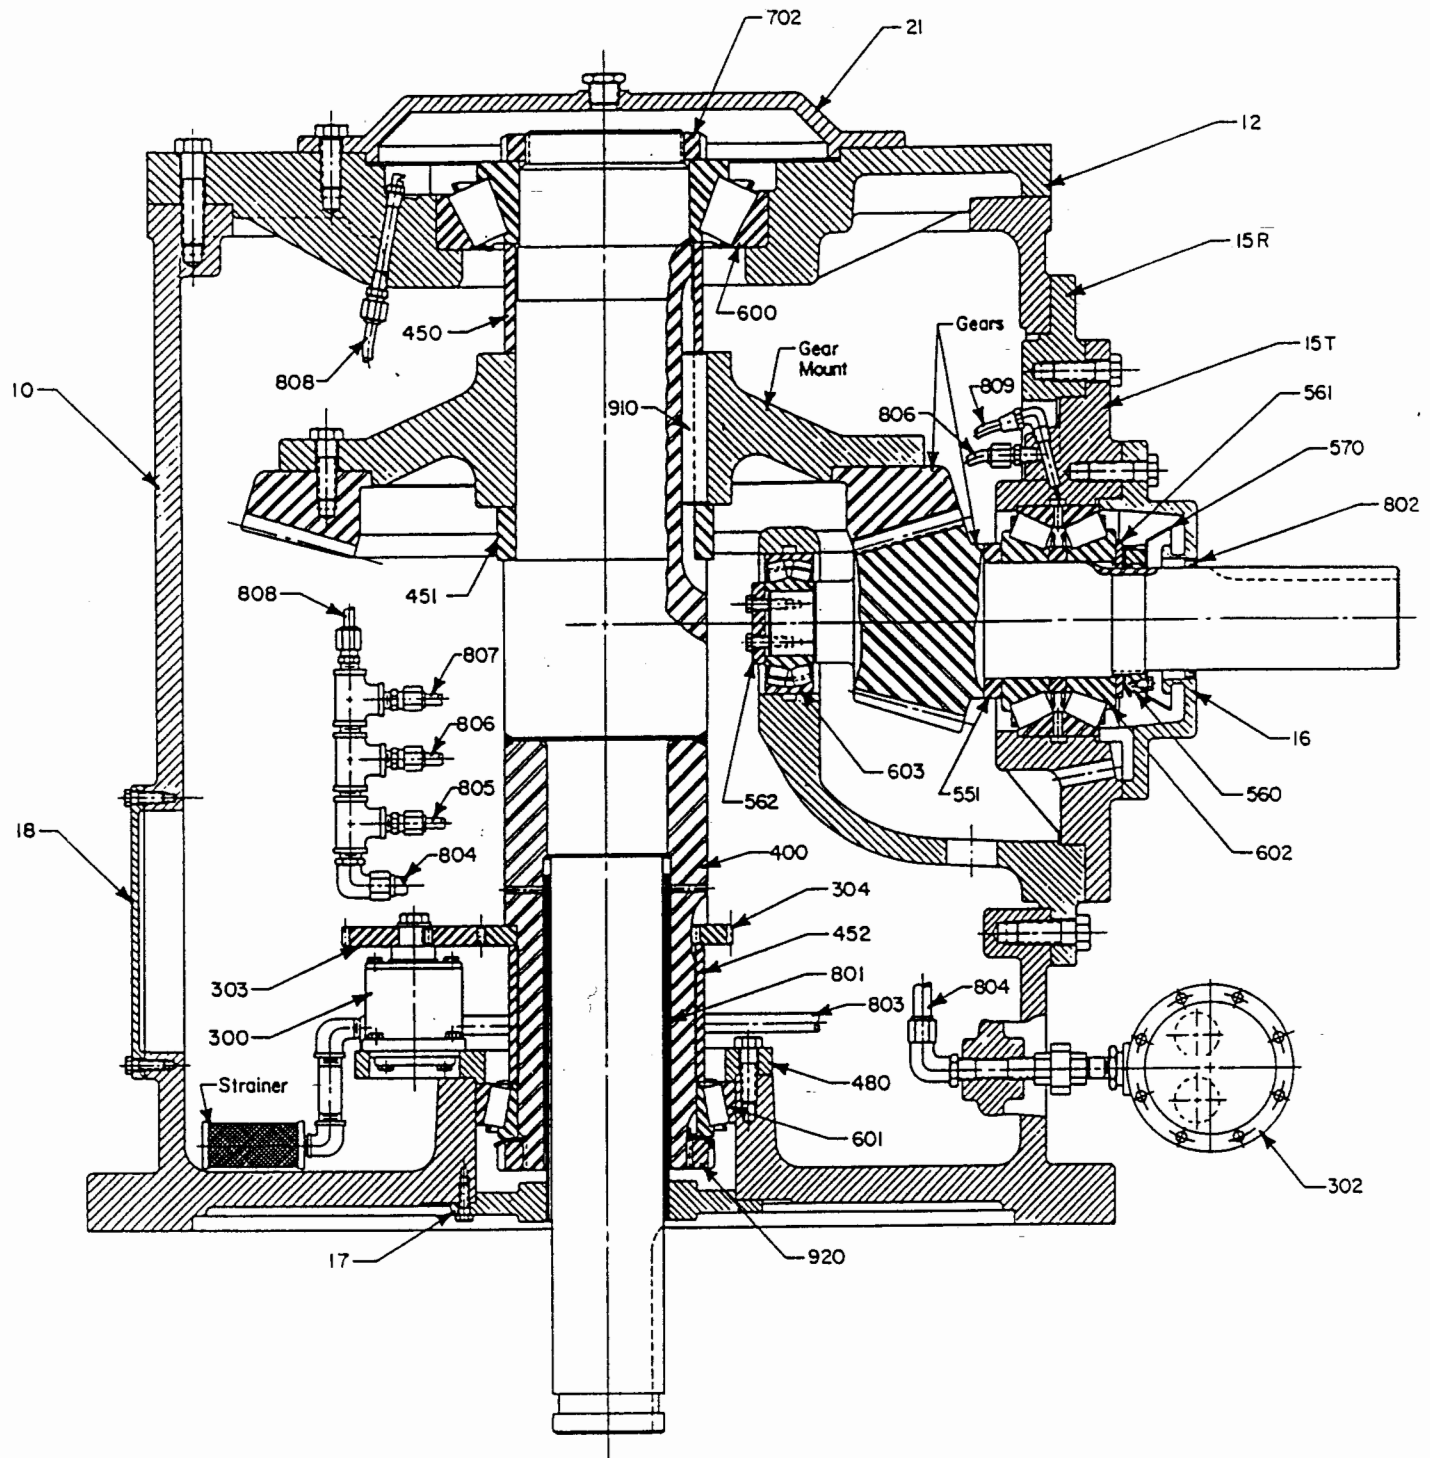

Figure 2
- 1.7.4 On models having a two piece horizontal carrier (see Figure 2), pull the horizontal carrier (15R) out far enough to allow it to clear the gear case register.
Note: On Models without a non-reverse mechanism (see Fig. 2), proceed to Step 2.3.
- 3.9 Remove the inner and outer bearing cups (602 & 603) from the horizontal carrier (14) using a brass punch or bearing puller.
- 4.0 Disassembly of the Horizontal Shaft Assembly for Models with Two Piece Horizontal Carrier (See Figure 2).**